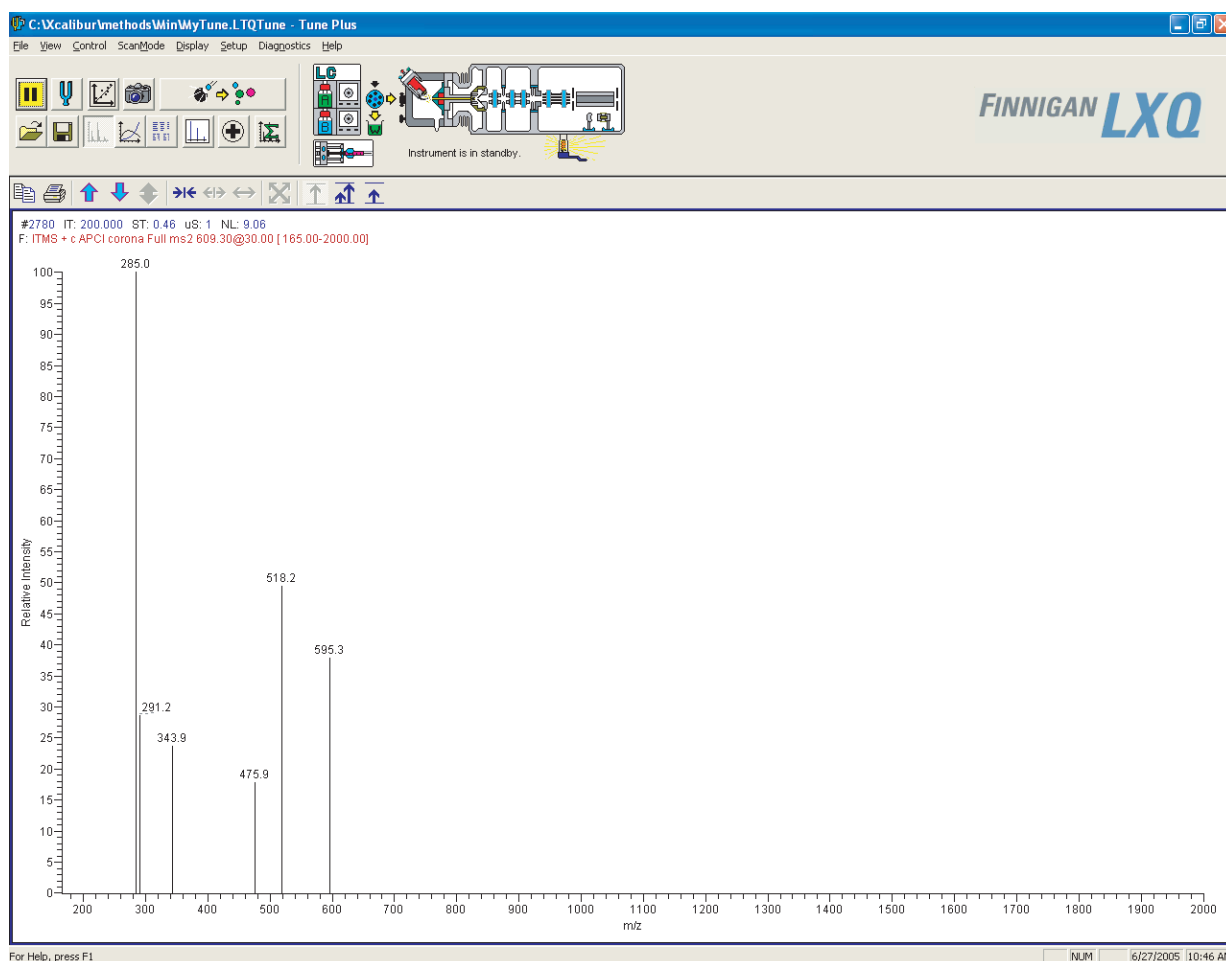

Figure 18. Tune Plus window, showing the MS detector in the Standby mode
- d. Click the Tune Plus button to display the Tune Plus window. See Figure 18.